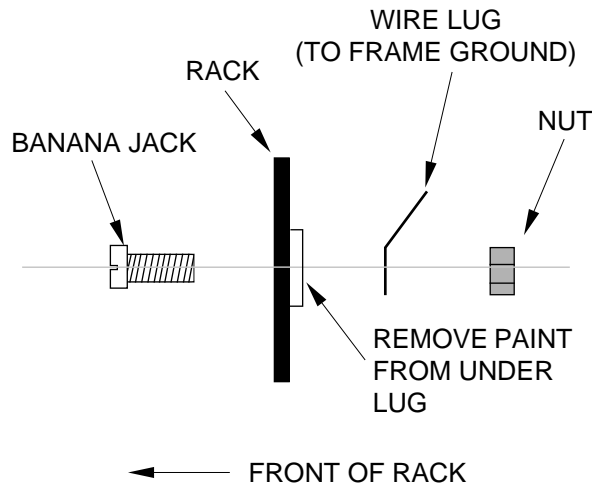

Figure 3. Grounding Banana Jack
- c. Install the jack, ensuring jack is on the front of the rack and the lug is between the rear of the rack and the nut (Figure 3).